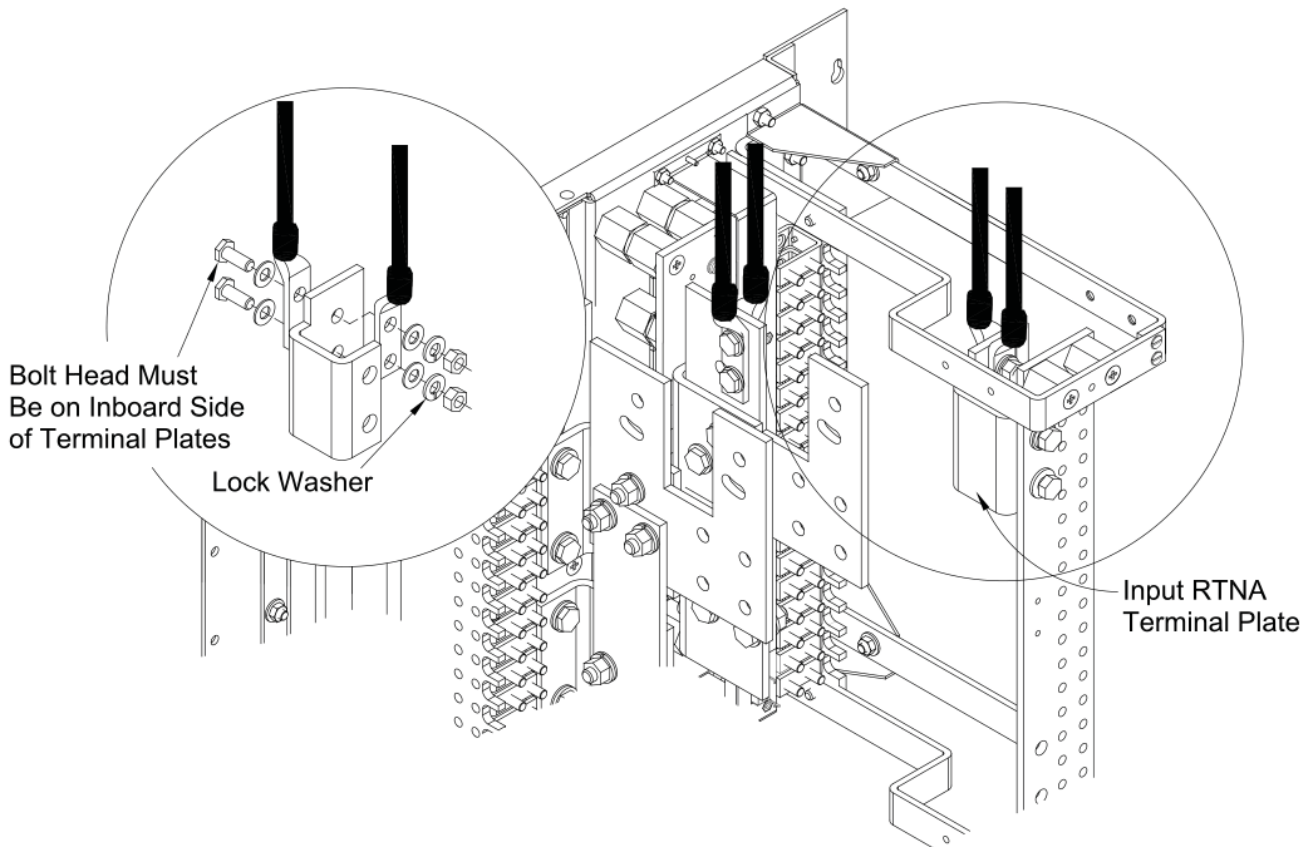

Figure 15 - Securing the Input RTN
- e. Use a 3/8-16, grade 2 bolts, washers, and nuts (all provided) to secure the first pair of RTN cabling to the RTN input bus terminal plate. (See Figure 15.)